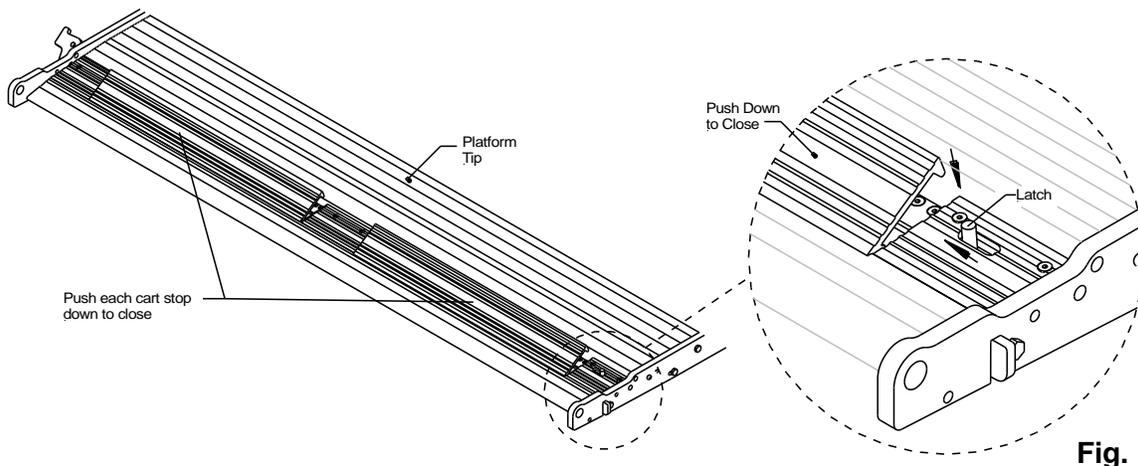

Fig. 16
2. To close the cart stops, push the cart stop latch inward towards the street side, **Fig.16**. After the latch is in place close each cart stop by pushing each stop